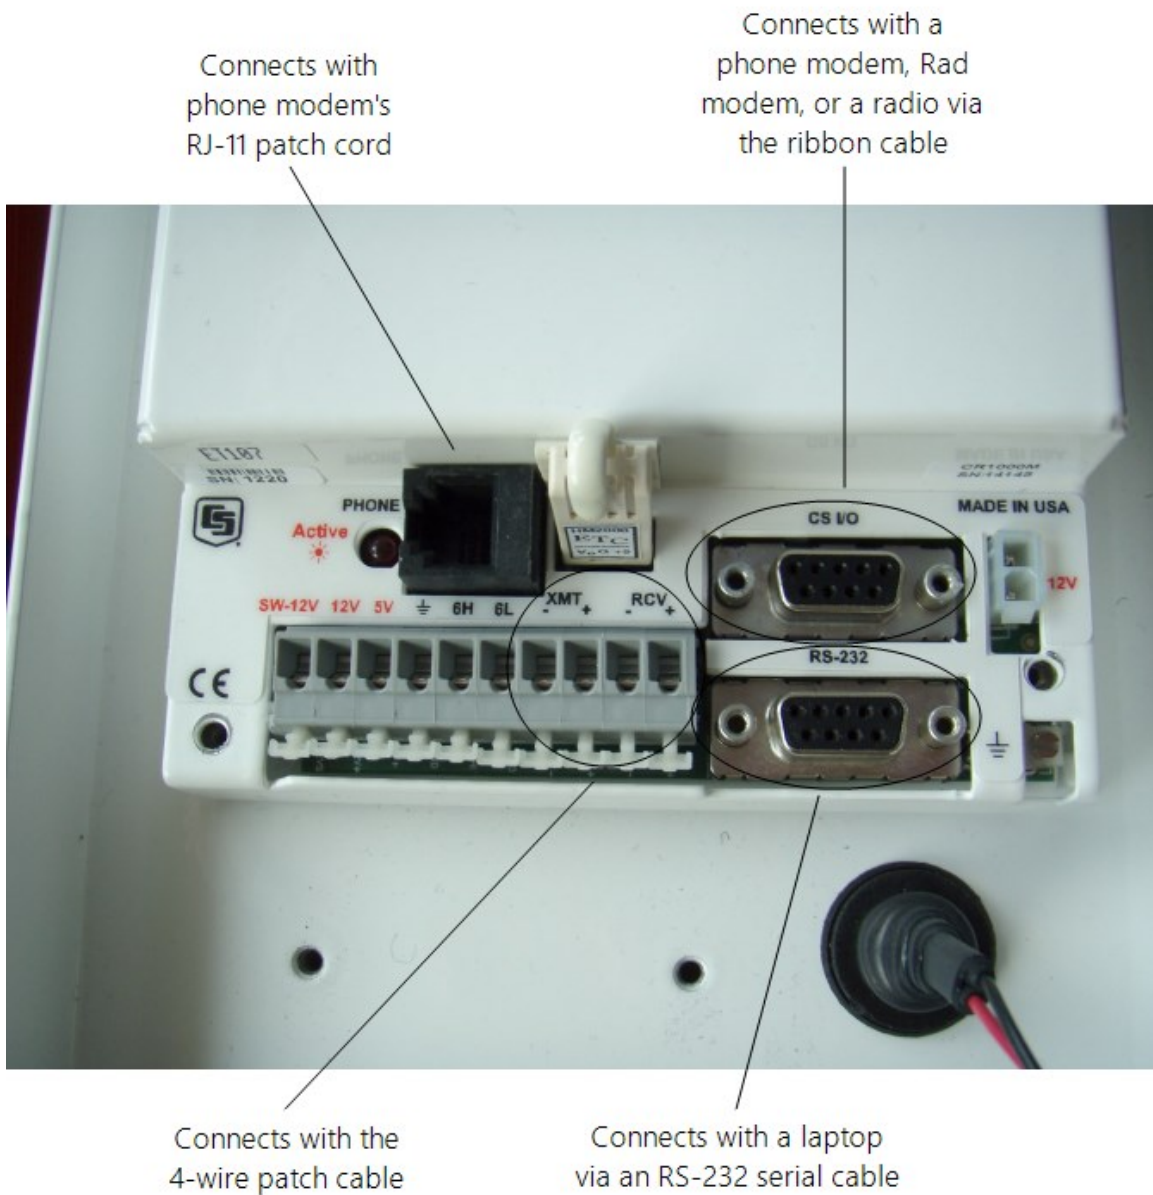
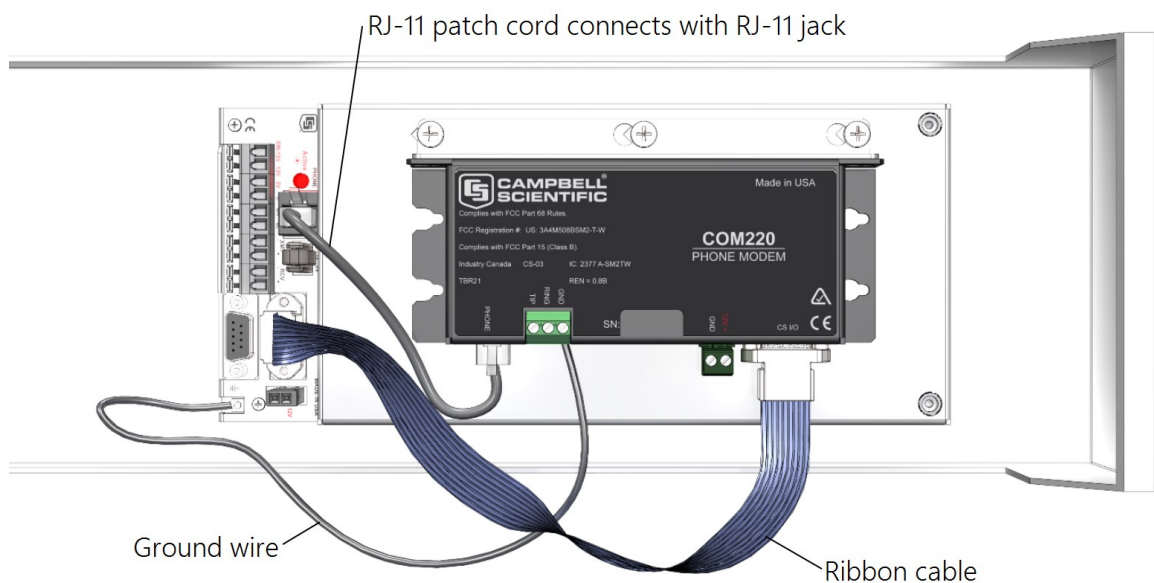

FIGURE 6-22. Close-up of the terminals and 9-pin ports in the WS-PRO2 (battery not shown)
FIGURE 6-23. Phone modem mounting and connections (battery not shown)
The WS-PRO2 station does not require an interface device for direct RS-232 communications. The inside of the enclosure has a RS-232 and CS I/O port available for communications (see FIGURE 6-22 (p. 36)). Most standard communications options use the CS I/O port leaving the RS-232 port free for direct communications with a laptop or desktop computer using a standard RS-232 serial cable. The data logger used in the WS-PRO2 station can communicate with more than one device at a time allowing troubleshooting to be done in the field with a laptop computer while remote communications devices are accessing the station.
Use the following procedure to install the phone modem (FIGURE 6-23 (p. 37)).
2. Connect the modem 9-pin port to the enclosure CS I/O port with the ribbon cable supplied with the enclosure (FIGURE 6-22 (p. 36), FIGURE 6-23 (p. 37)).
3. Connect the modem RJ-11 jack to the enclosure RJ-11 jack with the RJ-11 patch cord (FIGURE 6-23 (p. 37)).